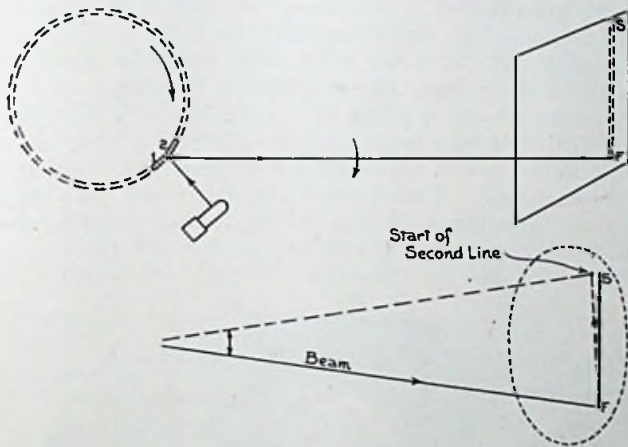

Fig. 1.—Comparison between mechanical scanning and movement of beam in the cathode-ray tube.
This apparently contradictory statement is best explained by referring to Fig. 1, which shows a high-definition scan produced by a mirror drum and by a cathode-ray tube. In the top picture the ray of light reflected from the mirror (1) has just completed the drawing of a line, and mirror (2) is following on to catch the beam at a fresh angle and divert it to the edge of the frame again. In the lower picture the beam has completed one line in moving from S to F, but before it can draw a second one it must be returned to a position in line with S and a little to one side. The drawing of each line is thus followed by a return stroke which places the beam in position for the next one.